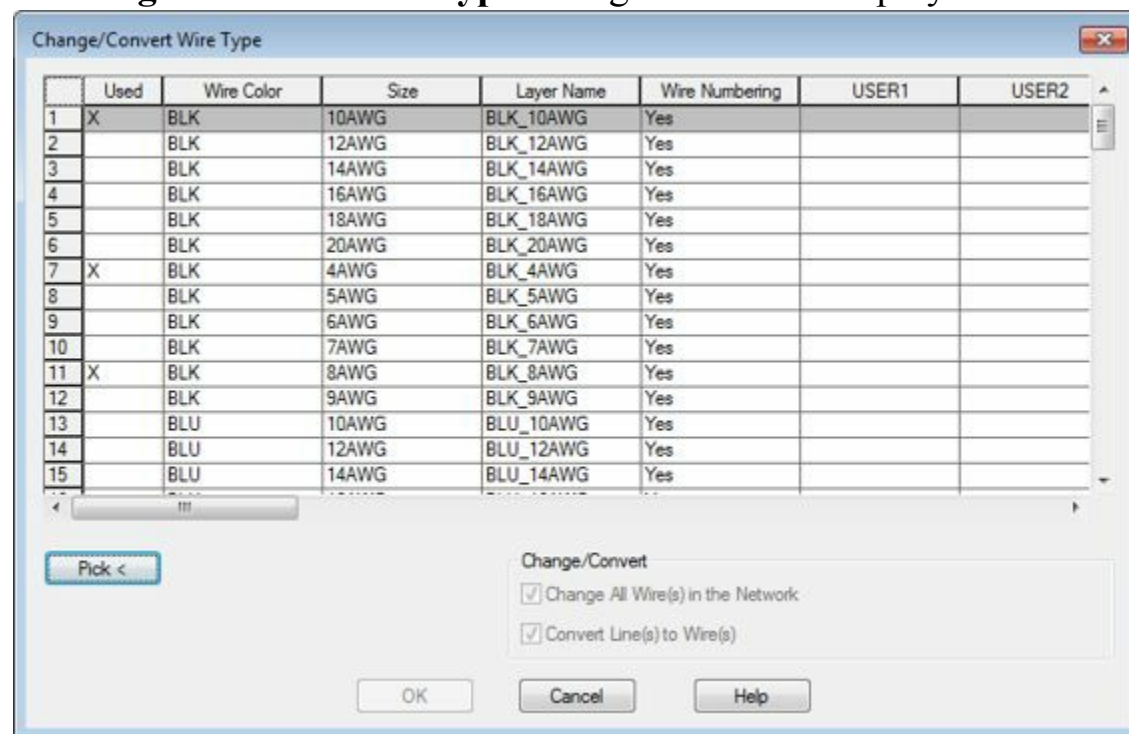

Figure-71. Change or Convert Wire Type dialog box
- Click on the **Change/Convert Wire Type** tool from the **Wire Type Editing** drop-down. The **Change/Convert Wire Type** dialog box will be displayed as shown in Figure-71.